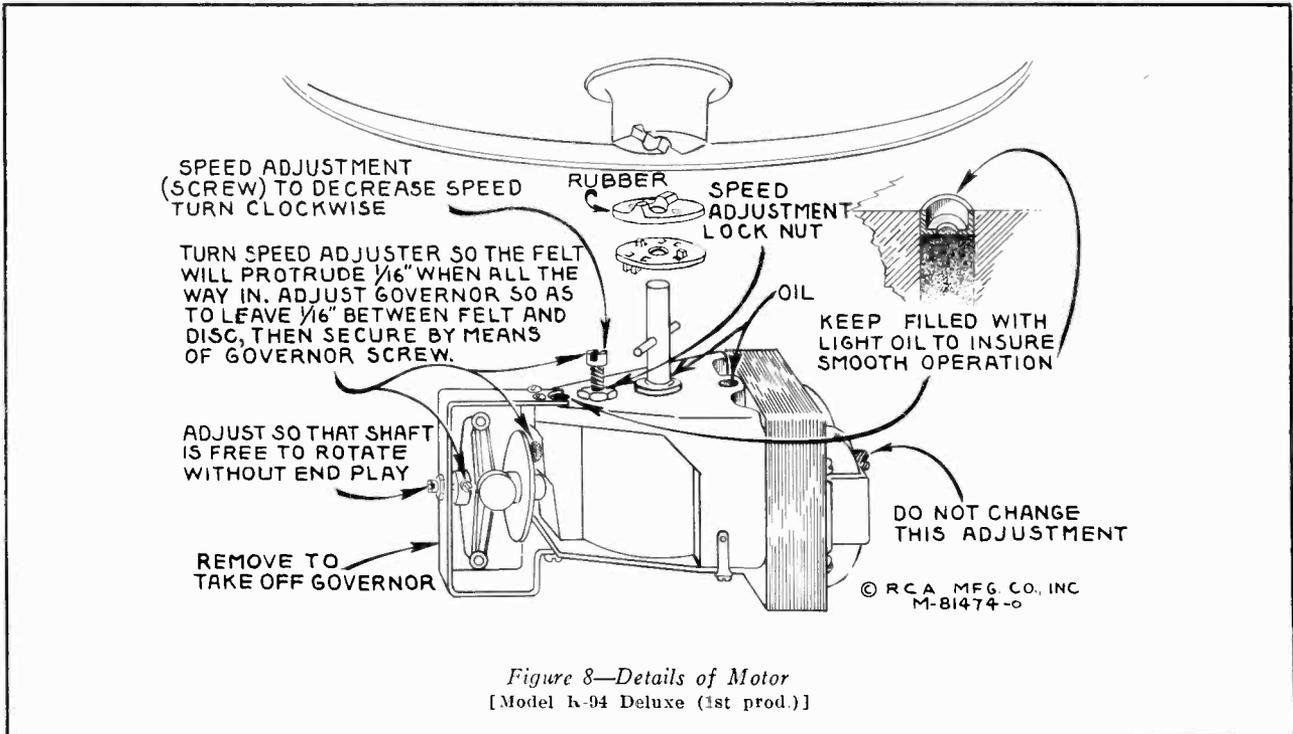

Figure 8—Details of Motor
The viscoloid damping block which is attached to the front end of the armature shank serves as a mechanical filter to eliminate undesirable resonances and to cause the frequency response to be uniform. Should it be necessary to replace this damping block, the pickup mechanism should be removed from the tone arm as explained above. Remove screw D and the damping block from the pickup assembly. Make sure that the shaft of the armature which contacts the viscoloid is clean. Then insert the new damping block so that it occupies the same position as that of the original block, and is in correct vertical alignment with the armature. The hole in the block is somewhat smaller than the diameter of the armature in order to permit a snug fit. With the damping block properly aligned on the armature, screw D with its washer should then be replaced. Heat should be applied to the armature (viscoloid side) so that the damping block will fuse at the point of contact and become rigidly attached to the armature. A special-tip soldering iron, constructed as shown in Model R-93 Service Notes (third edition) figure 8, will be found very useful in performing this operation. The iron should be applied only long enough to slightly melt the block, causing a small bulge on both sides.
**MOTOR**—The phonograph motor is of the governor induction type and is designed to be simple and foolproof. Occasionally, however, certain adjustments may be required. These adjustments are illustrated and explained in figure 8. Application of oil to the felt pad which rubs against the governor disc will insure smooth operation.